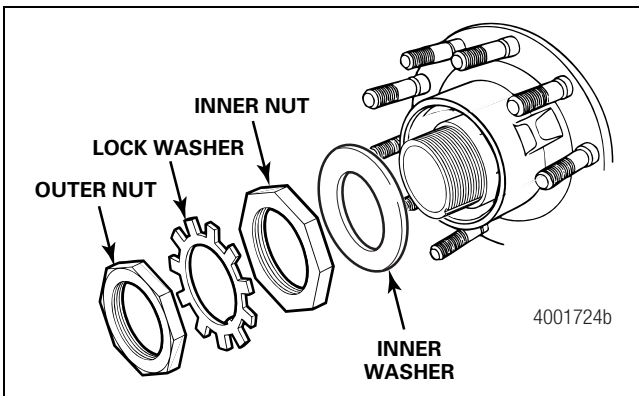

Figure 3.14
8. Remove the outer nut, lock washer, inner nut and inner washer, if provided. Early TB model axles did not use the inner washer. Figure 3.14.